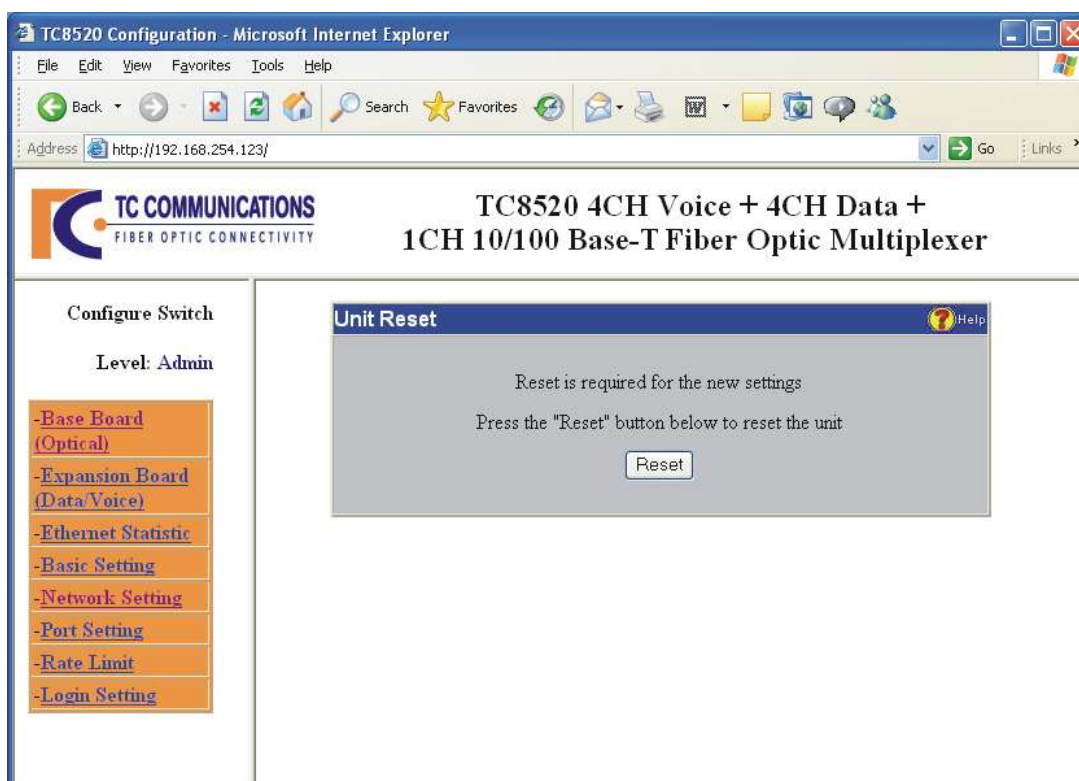

Figure 20. TC8520 Slave Configuration
a) After you click Apply, a dialog box as in Figure 20 will appear asking you to reset the unit by clicking the "reset button" on that dialog box.